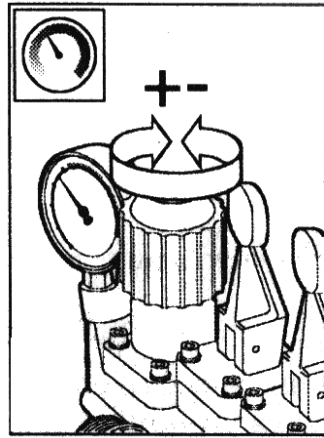

Fig 18. Proportional pressure valve
- f) With proportional pressure valve, to set the proper pressure depending on the dose, type of nozzle, the speed and perform the treatment (Figure 18);